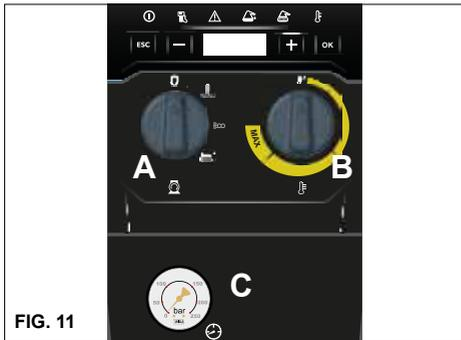

FIG. 11
N.B. To reset the indicators, rotate the main switch "A" to the "0" position and then to the "I" position (fig.11).